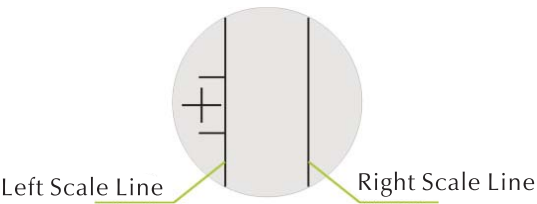

Fig.4
- Each level test force and positive and negative signal of the instrument can be obtained from the feedback of the sensor . Output signal of the sensor is quite feeble , therefore anti-interferencemodule has been installed in the circuit , but to ensure the normal operation of the instrument and avoid the possible occurrence of unnecessary damage , when the instrument is in use , it should avoid heavy current interference source in its surrounding . It should be Fig 4 closed after the test is complete.